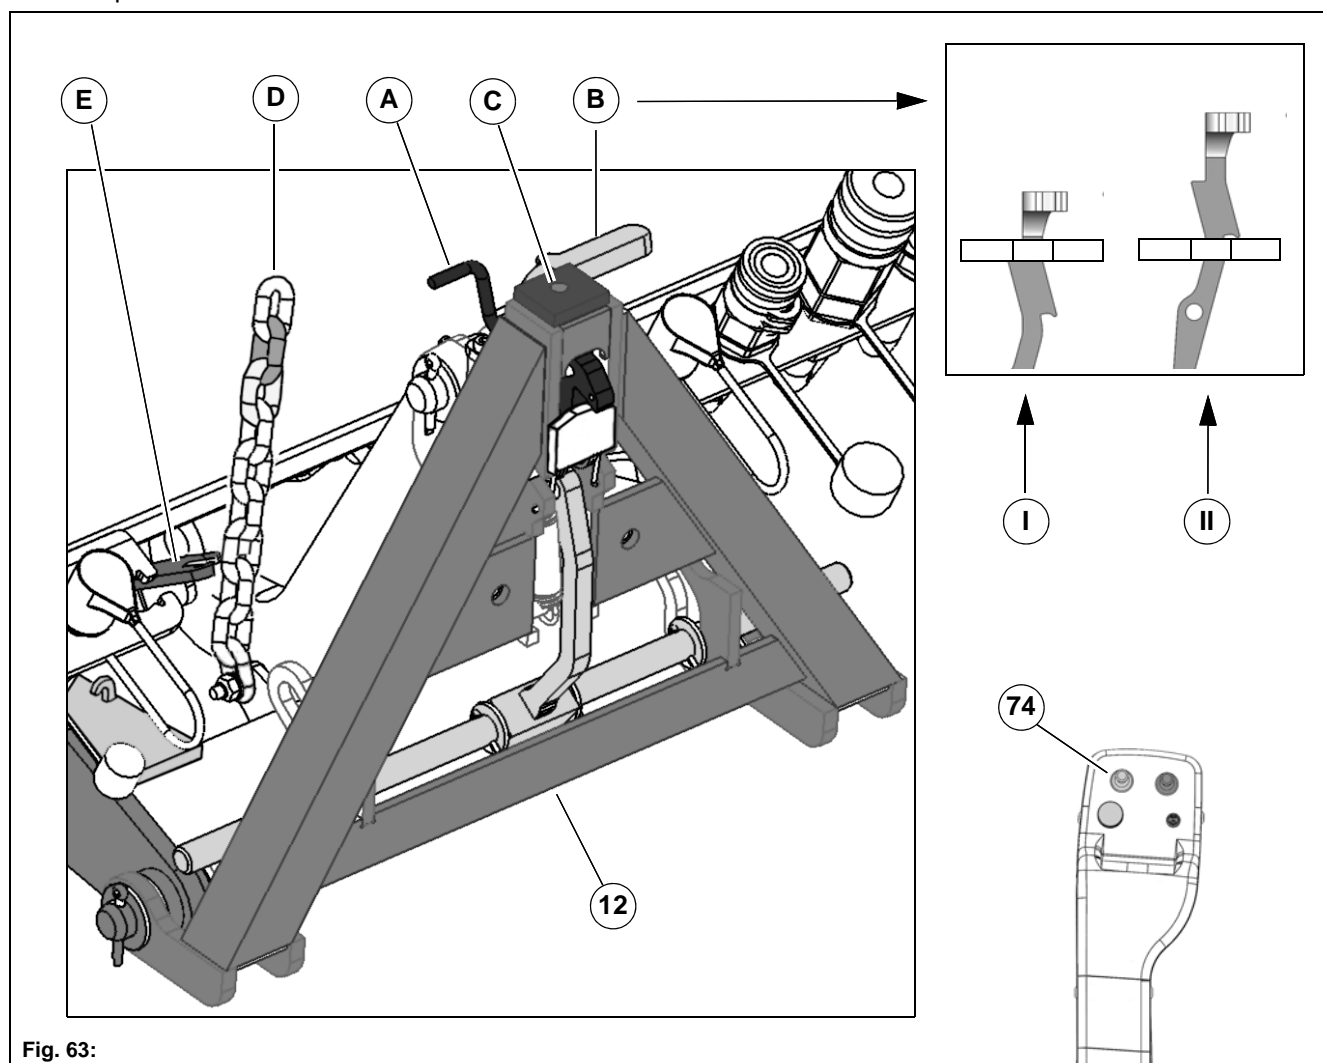

Fig. 63:
Risk of accident! Front attachments not correctly fastened to the front tool carrier can drop down while driving. Always secure the front attachment with the locking devices **Fig. 63-A and B**. Always secure non-Hako tools with the locking device **Fig. 63-C**.
- 2 Bring the locking hook **Fig. 63-A** into the rear position and the lever **Fig. 63-B** into the upper position **(II)**. Remove the chain **Fig. 63-D** and hook it onto the hook **Fig. 63-E**.